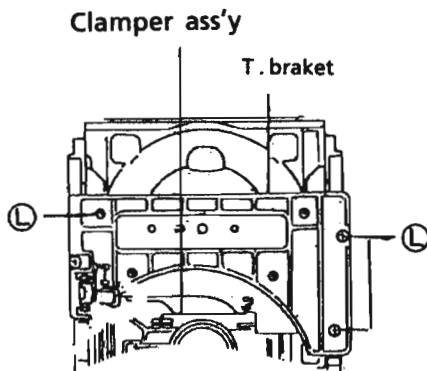

Fig.22
4. Remove 3 screws② securing T.Bracket.(See Fig. 22.)